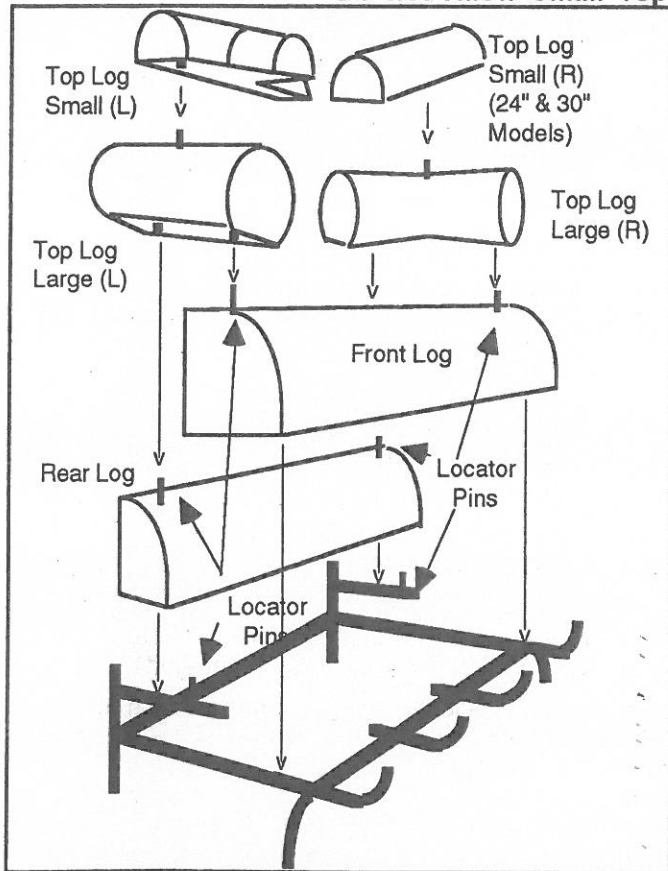

Figure 7
1. Place the largest log (**FRONT LOG**) on the front of the grate and the second largest log (**REAR LOG**) on the rear of the grate behind the **LOCATOR PINS**. Fig. 7 and 8.
inserted into the drilled holes located on the bottom of both **LARGE TOP LOGS**. **Figures 7 and 8**.
3. Place **R and L SMALL TOP LOGS** across the **FRONT LOG** and **LARGE TOP LOGS** with the **LOCATOR PINS** inserted into the drilled holes. **Figures 7 and 8**.